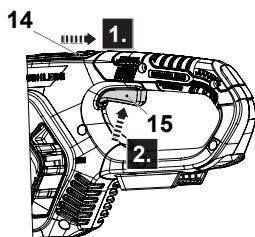

Fig.19
1. Pull back the lock-off button (14) and hold it in position (Fig. 19, step 1).
2. Squeeze the on/off switch (15) to switch the product on (Fig. 19, step 2). Release the lock-off button afterward.
3. Release the on/off switch (15) to switch the product off.